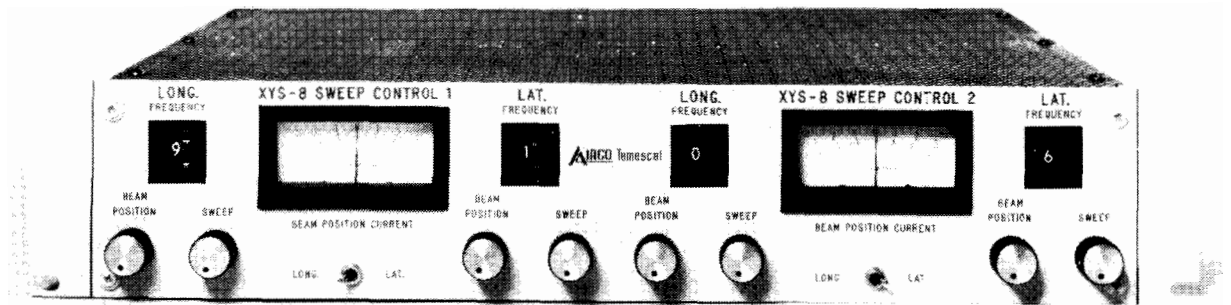

Figure 3-2. XYS-8 front panel controls
3.2.3 XYS-8 Controls (Optional) Figures 3-2 and 3-3)